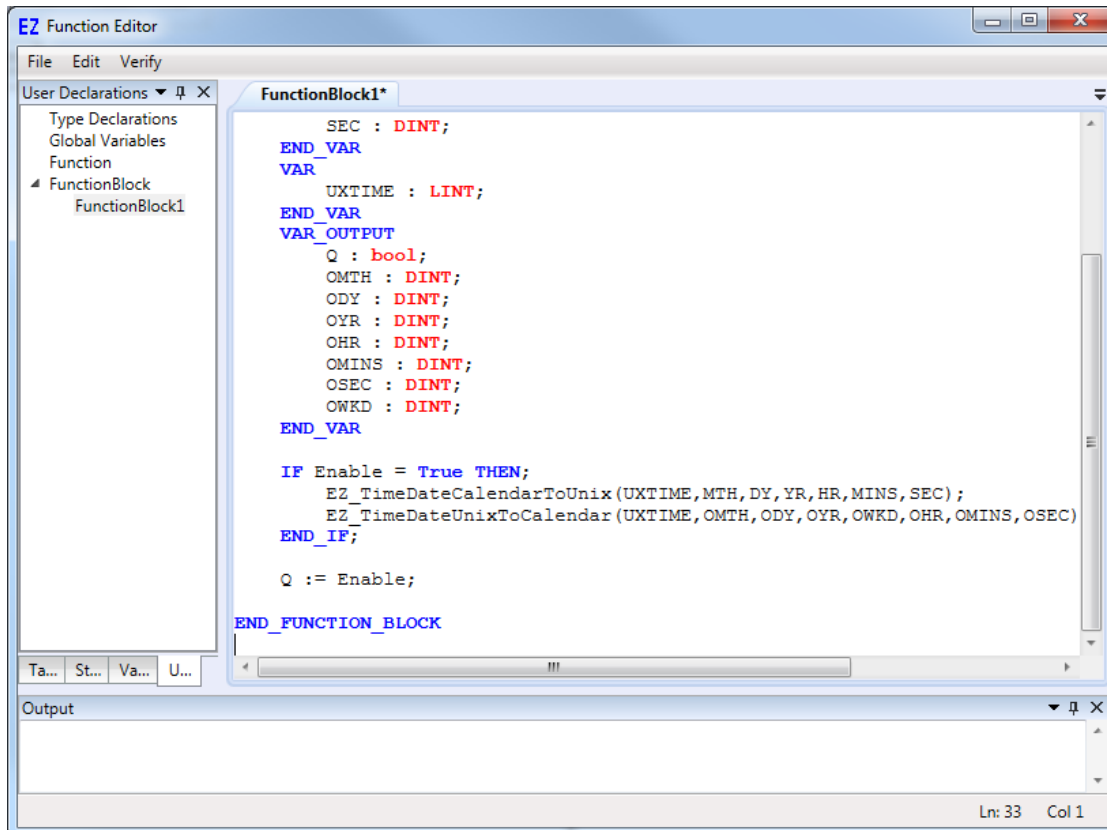

Figure 26-25
9. Use CTRL-V or the menu and select **Edit...Paste**. The function block source will be over-written by the contents in the Windows scratchpad. Refer to Figure 26-25.